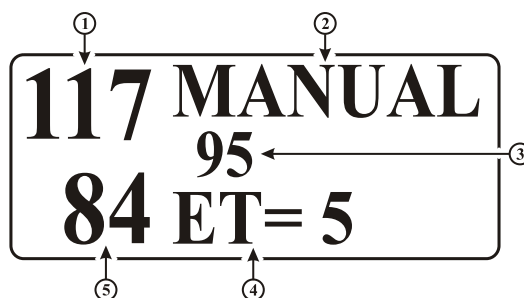

Figure 4-6. The NIBP Display
4.2.3 Associated Displays. There is no waveform associated with NIBP, therefore only numerics are provided as an indication of the measured value of this parameter. NIBP numerics are always displayed on the bottom left of the Normal Screen. The following is a description of the NIBP Display Area (See **Figure 4-6**):